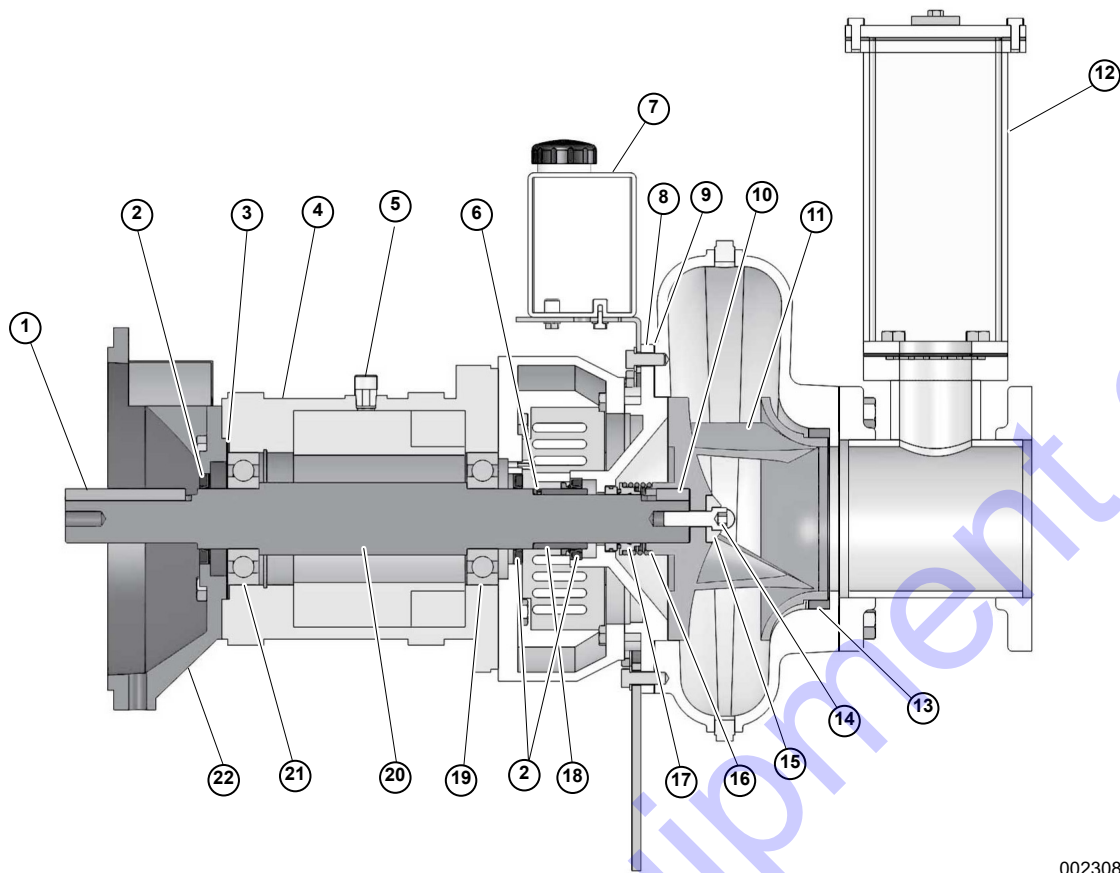

Figure 4-3. 6 Inch Pump Cross-Section
2. See Figure 4-2 and Figure 4-3. Remove the impeller lockscrew with a breaker bar. Do not use an impact wrench. Apply steady and even torque to break lockscrew loose. Allen head tooling to remove the lockscrew should be in excellent condition. Discard the lockscrew. Remove the impeller washer.
The location of the mechanical seal in your pump is shown in Figure 4-3. The stationary seat is held in the backplate. All other parts of the seal rotate with the shaft and impeller. The seal chamber must be full of liquid before operating the pump.